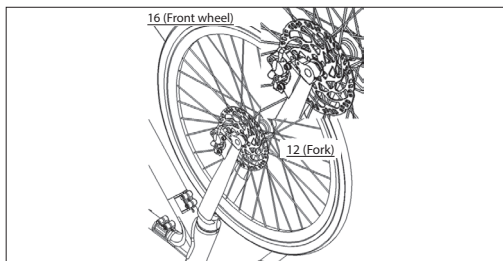

Figure 4-3
- Place the front wheel into front fork, making sure to carefully insert the disc in between the brake calipers, as shown in **Figure 4-3**.